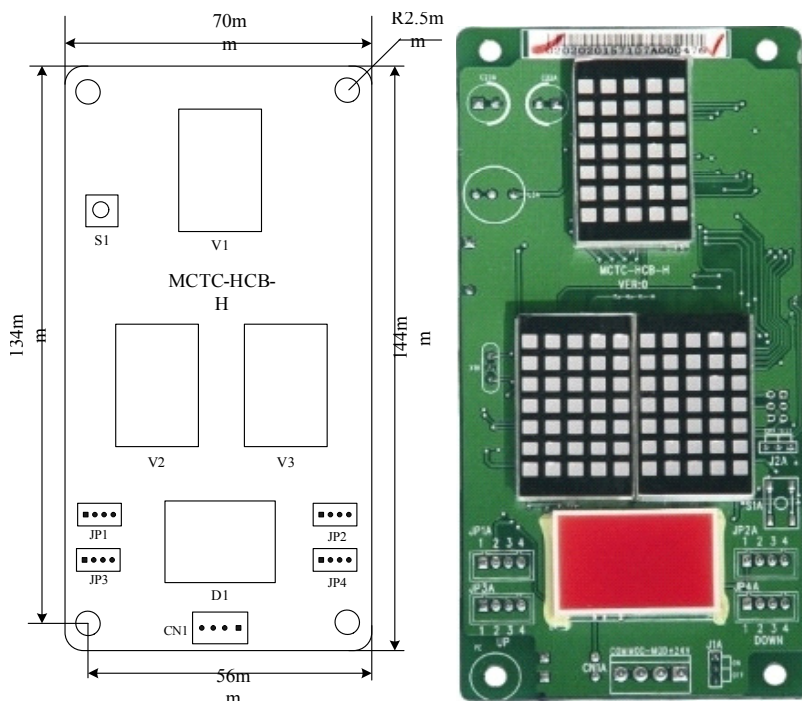

Fig 3-15 Installation size of MCTC-HCB-H
1) Appearance and size (Shown as Fig 3-15)